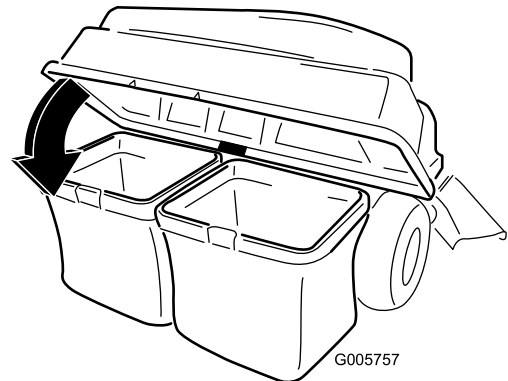

Figure 13
3. Lower the bagger top onto the bag (Figure 13).